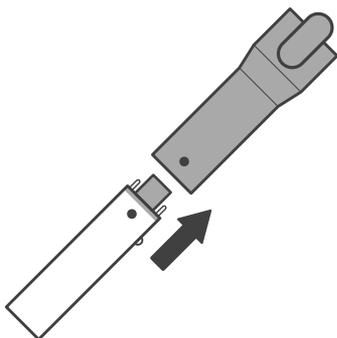

Figure 1.1
1. Build the vacuum stick by aligning the dots on the long stick and short stick, then push together until they lock in place. **[Figure 1.1]**